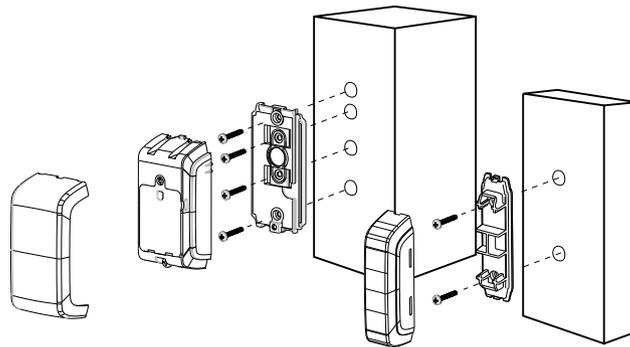

Figure 7: Flat surface mounting
4. Mark and drill the required amount of holes in the mounting surface. See Figure 7.